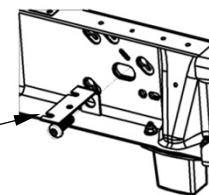

Figure 2c
7. Fasten the frame brackets to the vehicle frame rails as shown in Figure 1. Pass the cap head bolt (6) through the 5/8" conical washer (4) and then the rearward slot interior of the truck frame. Place the mounting bracket (1), 5/8" conical washer (4), and the 5/8" nut (3) on and hand tighten. On Pickups with OE Brake Controller, refer to installation step 2 to relocate the plug with the angle bracket. Use the cap head bolt (6) to attach the angle bracket to the inside of the frame (see Figure 2c), the angle bracket will go between the flat washer and the frame
8. Passing the 1/2" carriage bolts (9) through the top and bottom slots in the reinforcement block (10) will create a clamping strap that will go inside the frame rail and connect to the mounting bracket. There are two different sets of holes in the mounting bracket that allow for the best clamping surface to the truck frame. Changing the mounting bracket holes will allow the clamping strap to move truck forward or rearward. Once the strap bolts have been passed through the best mounting holes thread the reinforcement block (10), 1/2" conical washer (8), and the 1/2" nut on to the bolts and hand tighten.